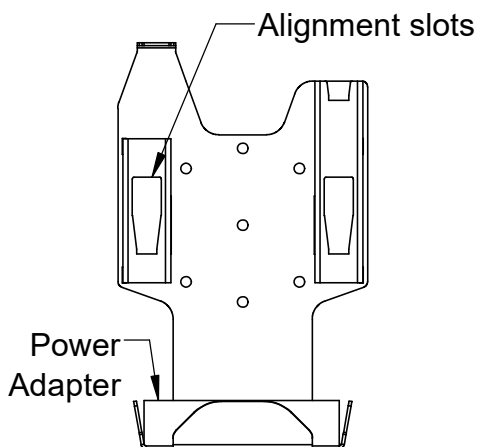

Figure 3
- Place the power adapter flat into the bottom of the wall mount as shown in (Figure 3). Insert the cable connector into the computer and the AC plug into an available outlet. Tie off excess cable using the available cable-tie holes found in the tabs of the power adapter holder and wall mount.